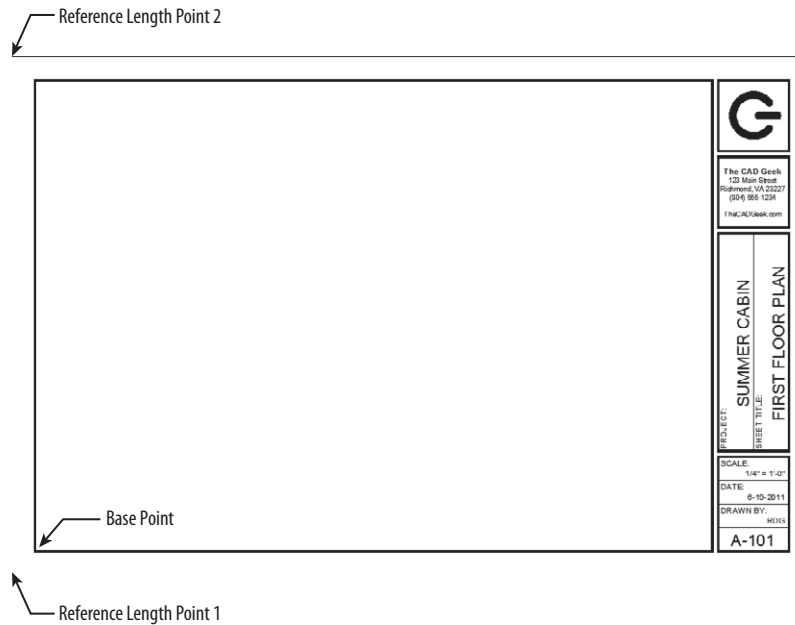

FIGURE 14.5: Specifying a reference length by using the SCALE command
- b. Pick the lower-left corner of the outer boundary and then the upper-left corner of the outer boundary (see Figure 14.5).